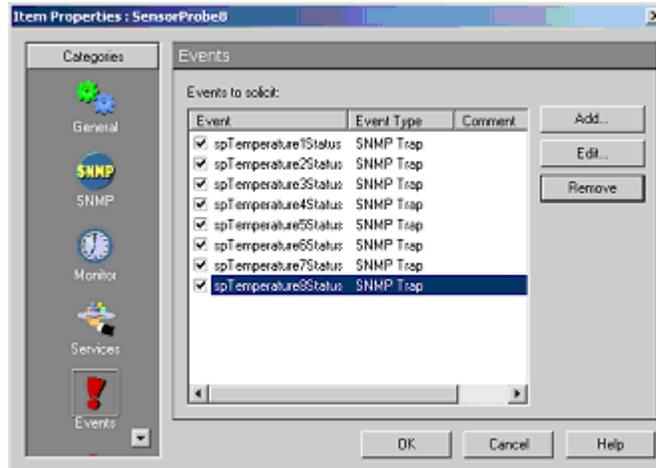

Figure 11 Trap events assigned to the ServSensor JR
3.7 Repeat setup 2.3 to 2.6 to add all spTemperature2Status to spTemperature8Status as show in Figure 11.